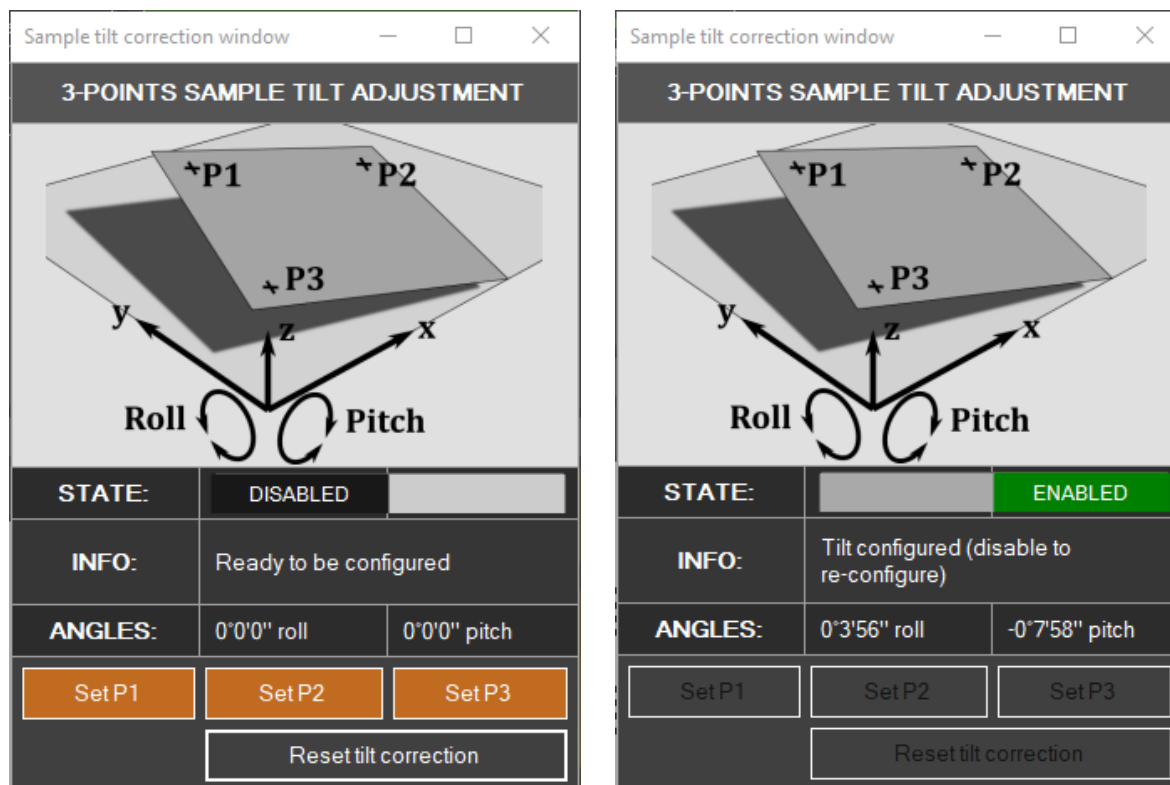

Figure 36 - Sample tilt correction window. Left: not set and disabled. Right: set and enabled
- Position the top left corner of your sample (P1 in Figure 36 Left) under the projected amber light using the **XY stage control interface** (section 4.1.1) and do the focus (Z adjustment). When done, click on **SetP1**.
- Buttons SetP1, SetP2 and SetP3 should be green. Roll and pitch angles should also be calculated. If so, click on the **STATE switch button** to enable the real time software tilt correction. The window should look like Figure 36 Right side.